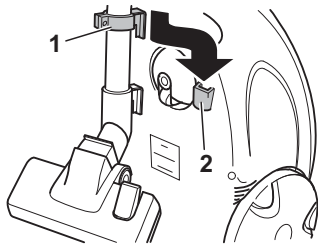

Fig. 15
- When **putting away** the vacuum cleaner, you can also use the stow-away hook mount (Fig. 15/2) on the underside of the cylinder vacuum cleaner. This is where you can hook the stow-away hook (Fig. 15/1) onto the telescopic tube (Fig. 15).